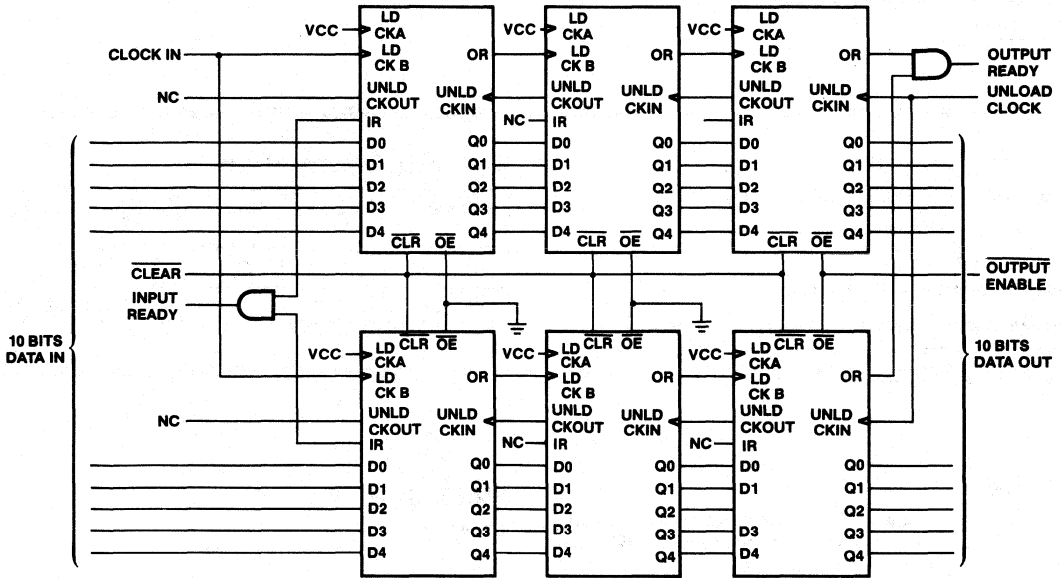

Figure 9. 48x10 FIFO with 74S225/A
After power up the CLEAR is pulsed low (Figure 5) to prepare the FIFO to accept data in the first location. Clear must be applied prior to use to ensure proper operation. When Input Ready (IR) is HIGH, the first location is ready to accept data from the D_x inputs. Data then present at the data inputs is entered into the first location when both Load Clocks (CLK A and CLK B) are brought HIGH. The CLK A HIGH and CLK B HIGH signal causes the IR and UNCK OUT to pulse LOW. Once data is entered into the first cell, the transfer of data from any full cell to the adjacent (downstream) empty cell is automatic, activated by an on-chip control. Thus data will stack up at the end of the device while empty locations will "bubble" to the front. t_{RIP} defines the time required for the first data to travel from input to the output of a previously empty device. When the sixteenth word is clocked into the device, the memory is full (sixteen words) and IR remains low. The Unload Clock Output is provided chiefly for use in cascading devices to extend FIFO depth (Figure 9). When Input Ready is Low, do not attempt to shift-in new data.